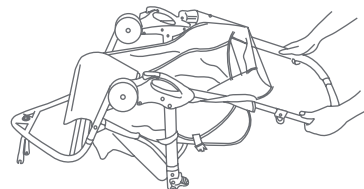

Fig. 1
- 1) • Lean the stroller backwards so that it rests on the handle and rear axle frame and the front wheel forks are pointing upward (Fig. 1).